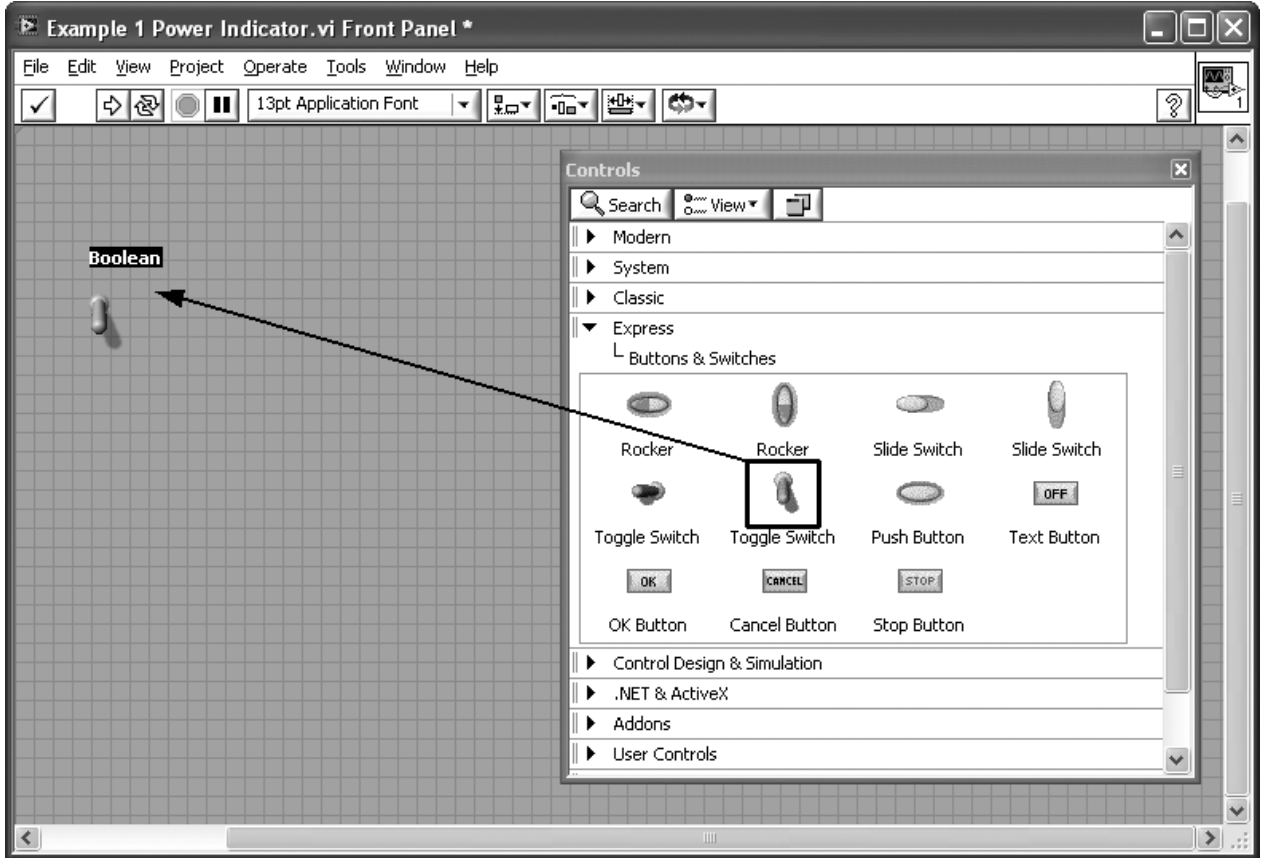

Figure 1.16
- Click on a toggle switch icon and drag it onto the front panel, as illustrated in Figure 1.16.